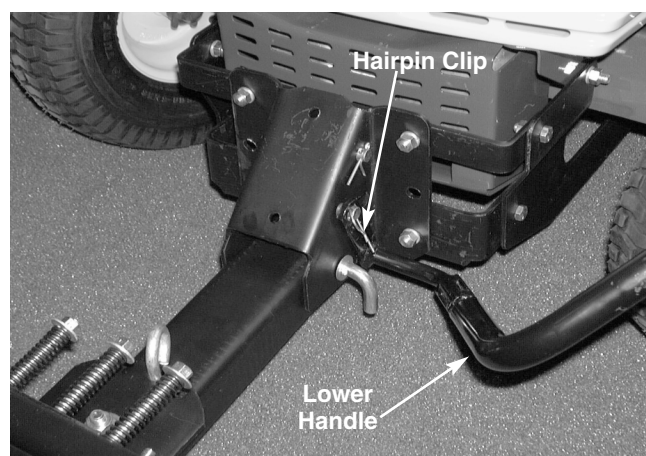

FIGURE 8.
16. Insert the end of the lower lift handle through the slot in the pivot support bracket and the hole in the push bar channel. The hole in the link on the end of the handle goes over the long pin on the lift link. See figure 8.
17. Secure the lower handle with a hairpin clip. See figure 8.